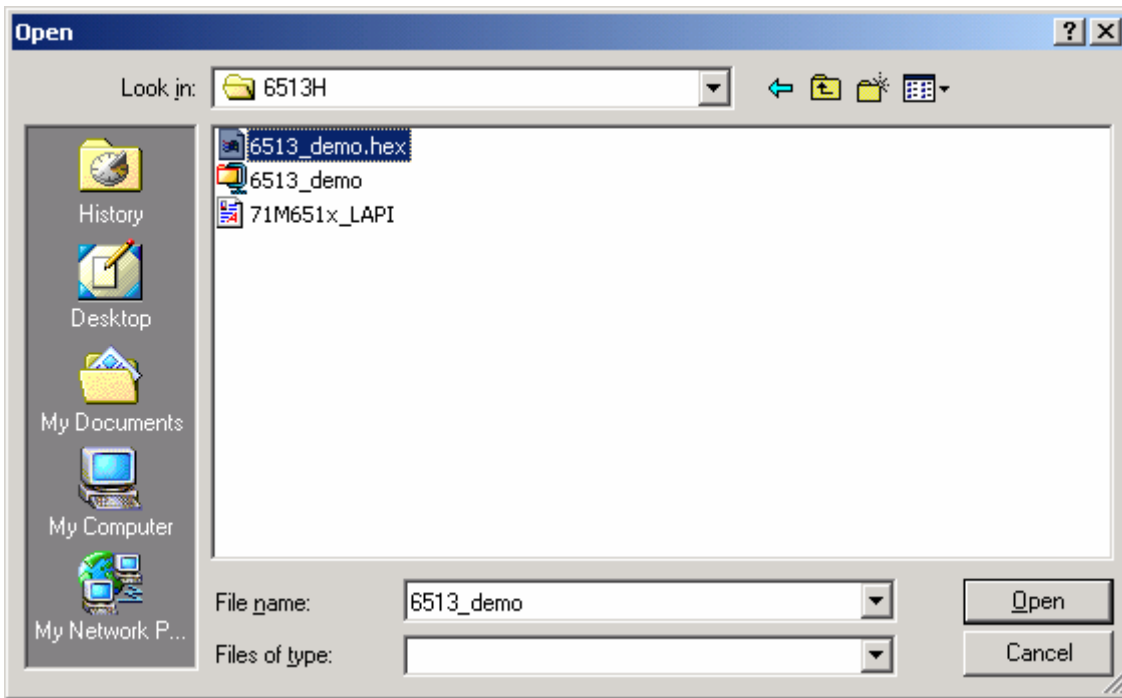

Figure 1-4: Flashloader File Selection Dialog Box
- 8) To select the object file to be transferred to the Demo Board, the File menu in the dialog box must be accessed by clicking on "File". The file selection dialog box shown in Figure 1-4 allows selection of any local or remote file (for example 6513_demo.hex).